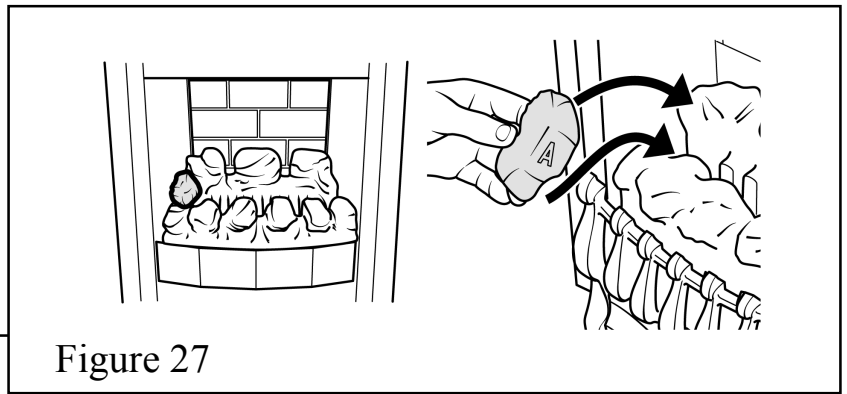

Figure 27
5. Place a type "A" coal between the front and rear base coals with the letter "A" upright and so that the coal is against the left side of the firebox. See figure 27.